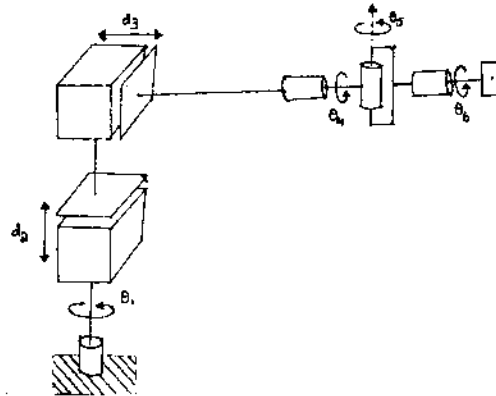

Fig.Q3
- 3 Derive the displacement matrices for three link cylindrical with spherical wrist by DH representation of Fig.Q3. (20 Marks)